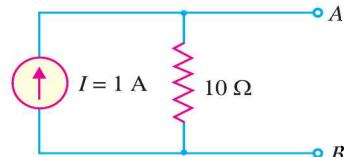

Fig. 1.17
- (iii) The equivalent current source is a source of 1 A in parallel with a resistance of  $10 \Omega$  as shown in Fig. 1.17.